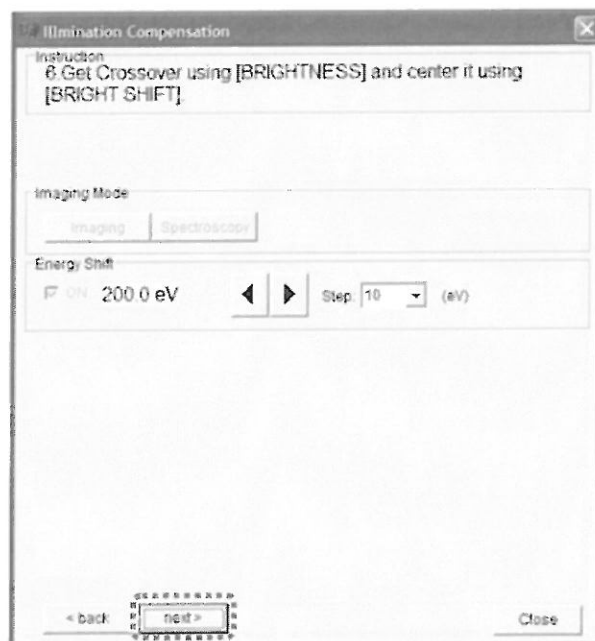

Fig. 5.54 Illumination Compensation - 6. Get Crossover using [BRIGHTNESS] and center it using [BRIGHT SHIFT]
6. Follow "Instruction – 6. Get Crossover using [BRIGHTNESS] and center it using [BRIGHT SHIFT]", and adjust the changed size and position of the electron beam with BRIGHTNESS (L1-⑦) and BRIGHT SHIFT (L1-⑧, R1-④) again (Fig. 5.54). When the adjustment is complete, press the **next** button to proceed.